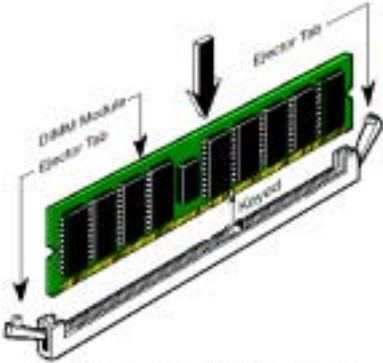

Figure 3-6. DDR DIMM module installation
- Step 5.** Insert the DDR DIMM module into the expansion socket as shown in the illustration. Note how the module is keyed to the socket. You can refer to Figure 3-6 for the details. ***This insures the DDR DIMM module will be plugged into the socket in one way only.*** Firmly press the DDR DIMM module into DDR DIMM socket, making certain the module is completely seated in the DDR DIMM socket.